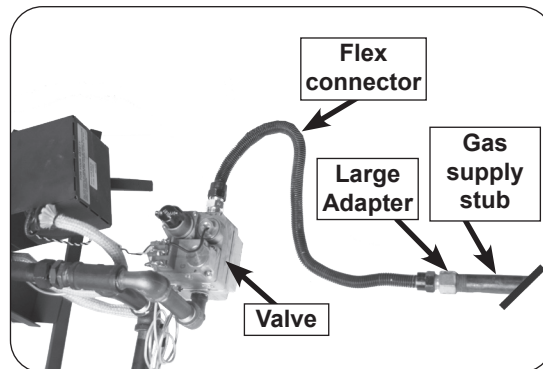

Fig. 12-1 Connect gas supply
2. Locate the gas-supply stub inside the fireplace and remove the cap, if attached (reference Fig. 12-1).
3. Remove the small adapter connected to the flex connector (if equipped), and set aside (do not use). Attach the open end of the flex connector to the existing adapter on the rear of the burner valve. Tighten securely. See Fig. 12-1.
5. **Be sure gas to the fireplace is off.** Remove the large adapter connected to the other end of the flex connector. Attach the adapter to the gas-supply stub using a pipe compound resistant to all gasses. Tighten securely. Then attach the open end of the flex connector to the adapter. Tighten securely. See Fig. 12-1.